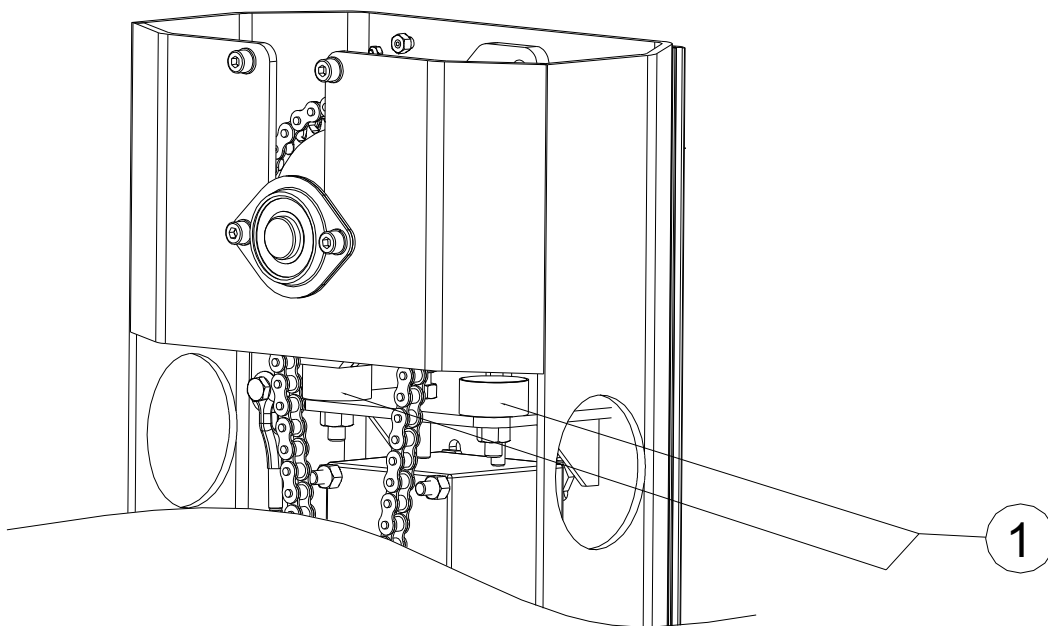

Fig. 11
- Proceed with the programming of the control panel following the specific electrical instructions and after having carried out the complete programming regulate the position of the arm's limit switches, lowering or raising the relative rubber antivibration drums (1) (Fig. 11).